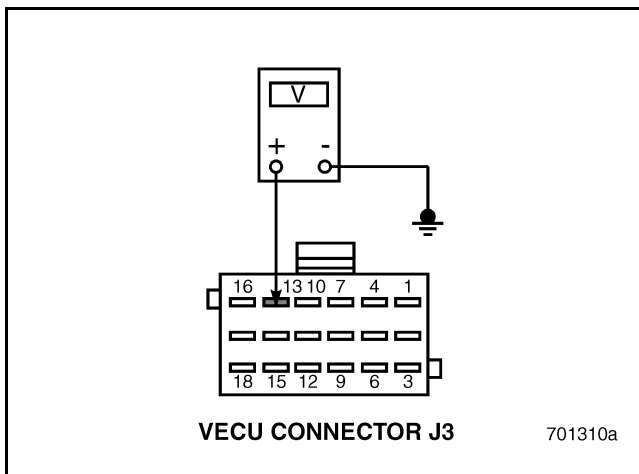

Figure 675
3. Measure the voltage between VECU connector J3 pin 13 and known good ground (see Figure 675).